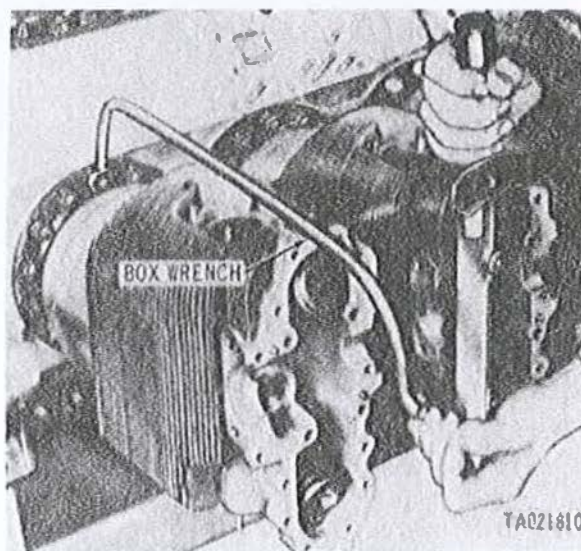

Figure 3-102. Checking breaking torque of cylinder base nuts using box wrench.
c. Check breaking torque of the 14 nuts (fig. 3-102) securing cylinder assembly to crankcase assembly using box wrench Part No. 8761562 in combination with a torque wrench. When torque required to break a nut loose is less than 600 pound inches, remove nut, apply antiseize compound to stud, install nut and tighten to a torque of 600 to 660 pound inches. When nut does not tighten to the recommended torque, stud is stretching and must be replaced. Mark stud for replacement. Refer to paragraph 3-38d for instruction on replacement of studs.